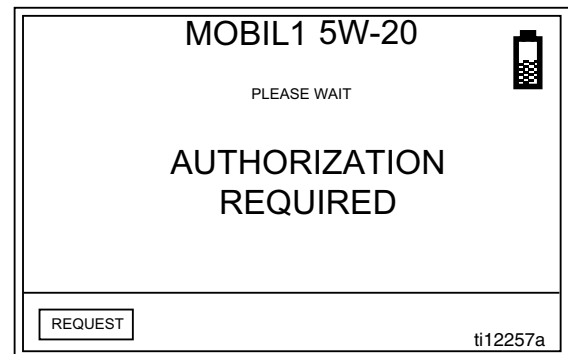

Fig. 23
2. After sending the request, the message PLEASE WAIT appears at the top of the screen as shown in Fig. 23.